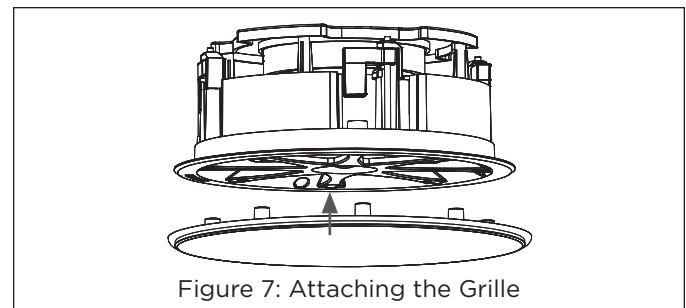

Figure 7: Attaching the Grille
7. The Visual Experience Extreme Grille features Sonance Extreme Post Capture (XPC) technology. XPC holds the grille in place by several small magnets located on the posts of the grille and inside the post holes located on the speaker baffle (see Figure 7). Place the grille against the speaker, aligning the grille posts and post holes. The magnets will pull the grille posts into the post holes and hold the grille firmly in place. When the grille is properly installed, the grille trim should make contact with the mounting surface all the way around the speaker.